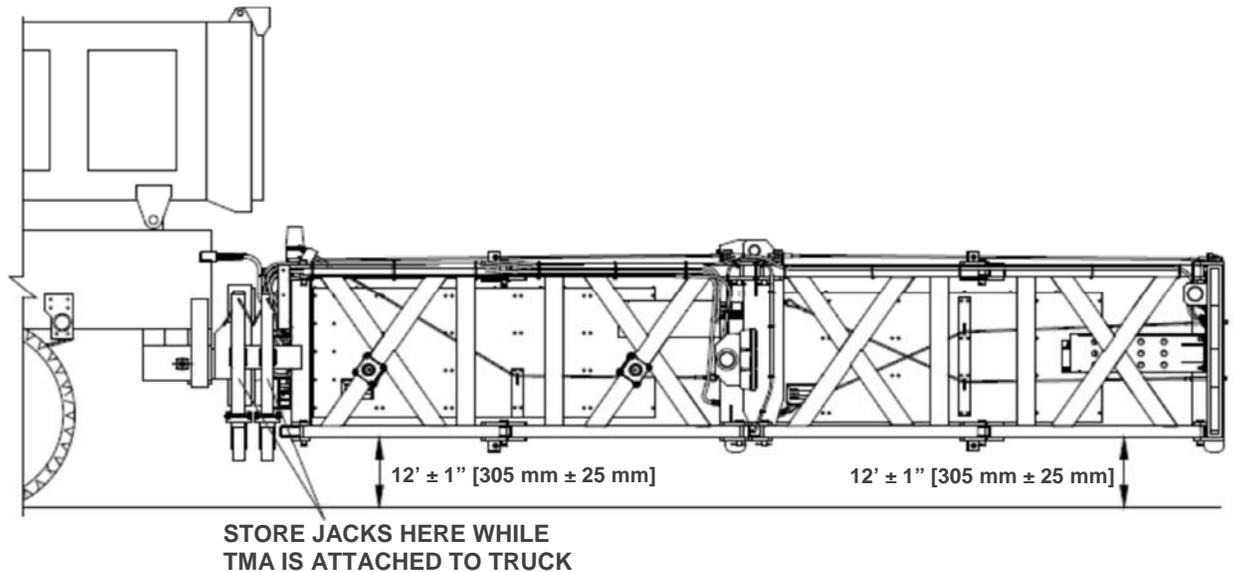

Figure 3
1. The TMA shall be rigidly fastened to the truck. In the horizontal position, the bottom of the TMA shall be 11" to 13" [280 to 330 mm] from the ground and level (Figure 3). The TMA must be left in the unfolded position whenever possible. The TMA can only absorb the energy of an impacting vehicle when in the unfolded position.
2. Jacks shall be used to support the TMA when it is detached from the truck. The Jacks must be stored while the TMA is attached to the truck. The Jacks can be stored on the brackets provided on the support frame (Figure 3).